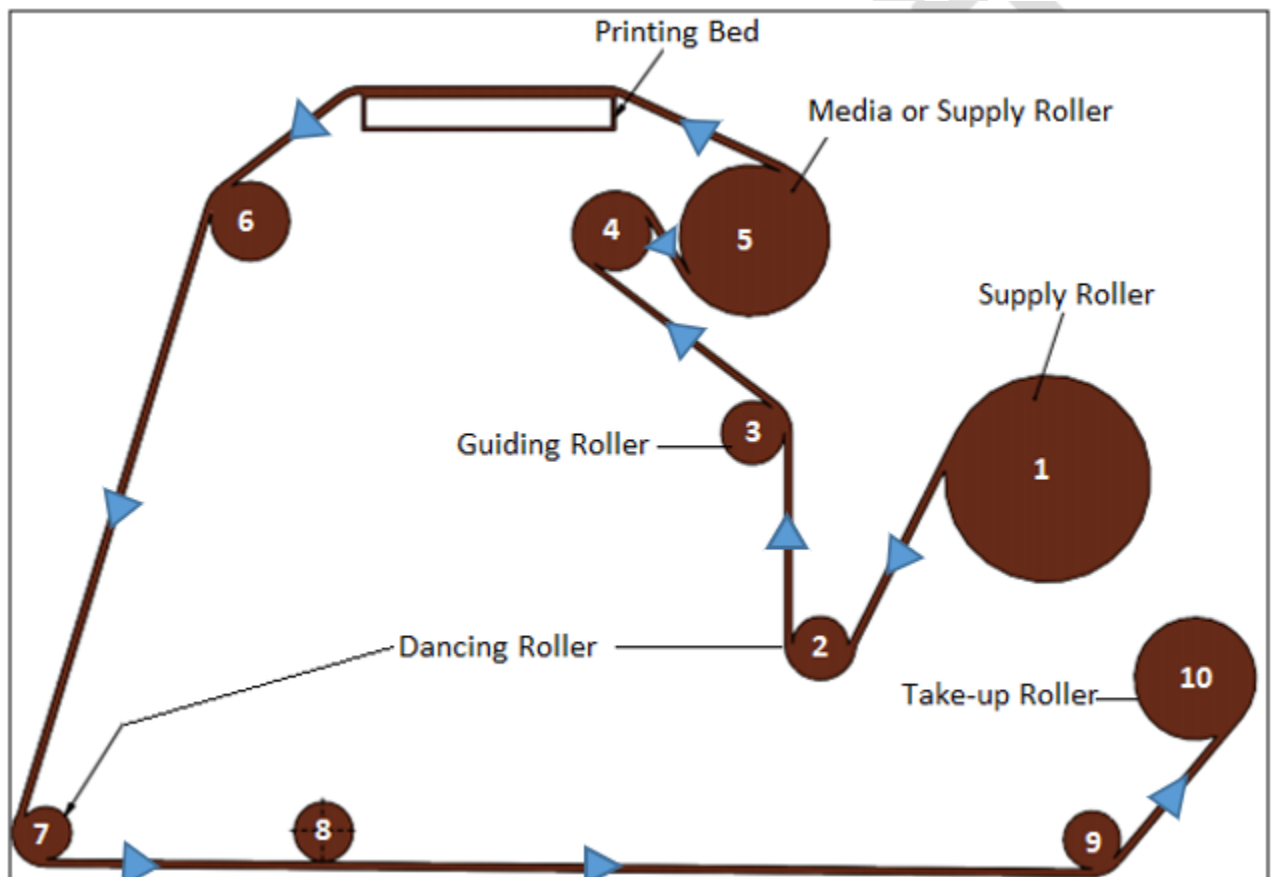

Fig 16: Showing the Media Path
**Step 2:** Pass the media through dancing roller and guiding rollers (Refer to Fig 16).
**Step 3:** Pull out enough media from the supply roller to the print bed (Roller no 5 in Fig 16).